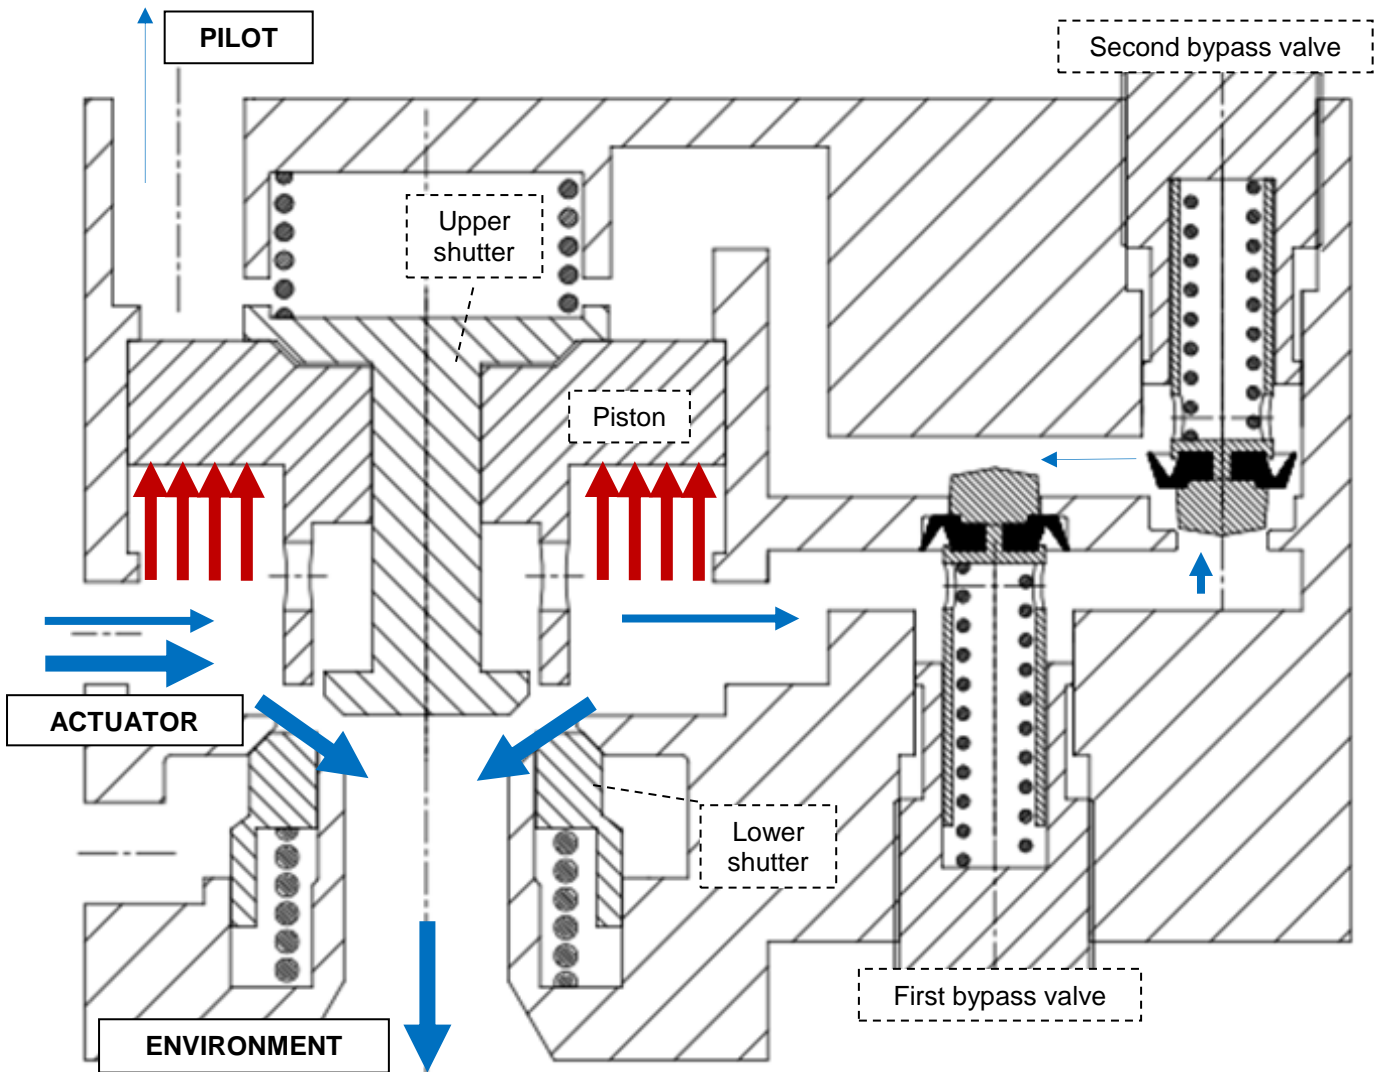

Figure 9 - exhaust setup: on-off mode (sketch)
- c) if the flow rate is much greater than a threshold value depending on bypass valve adjustment, the bypass valve throttling generates a pressure drop between the two side of the piston and the working fluid pushes up the piston and the upper shutter, allowing the connection between the actuator chamber and the exhaust chamber. In this case the upper shutter generates the greatest flow section available because the piston reaches its upper stroke limit. This case is called "on-off mode" and it is the Safety Function (figure 9).